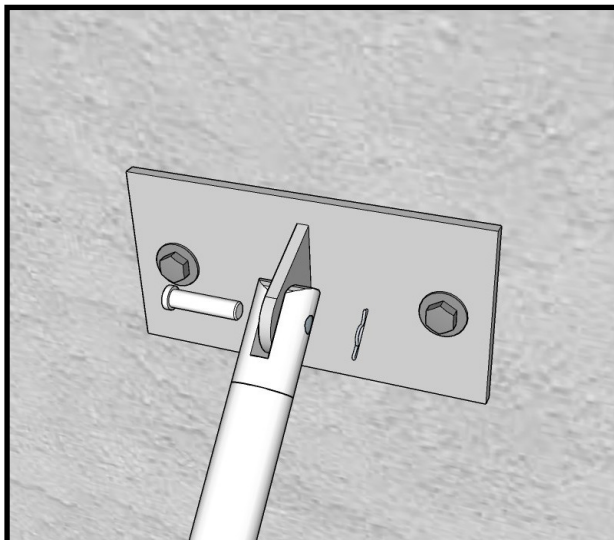
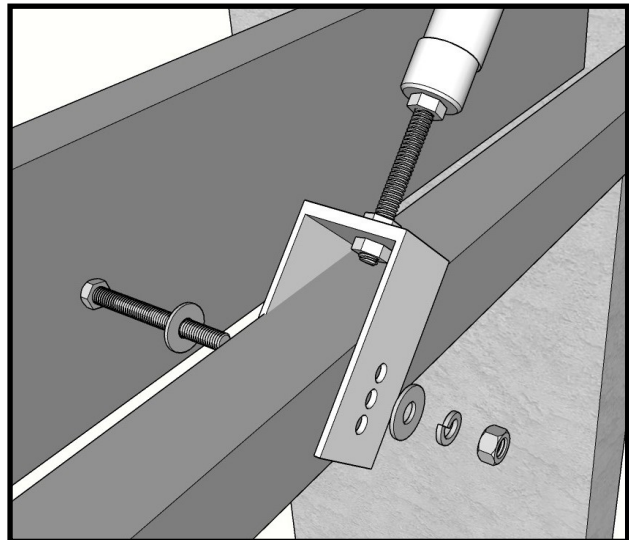

Fig 6
Fig 7
5. Attach tie-back (#2) to upper clevis bracket (#1) with a clevis / bridge pin (Fig 6). Attach the Lower Clevis Channel (#3) to the lower end of the tie-back and mount to the canopy Compression Bar with the provided 3/8 x 3" hex head bolt using (2) flat washers, a lock washer and a nut (Fig 7).